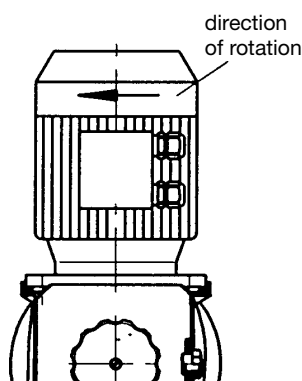

Fig. 11
- **When connecting the motor, make sure that it rotates in the correct direction (see Fig. 11).**